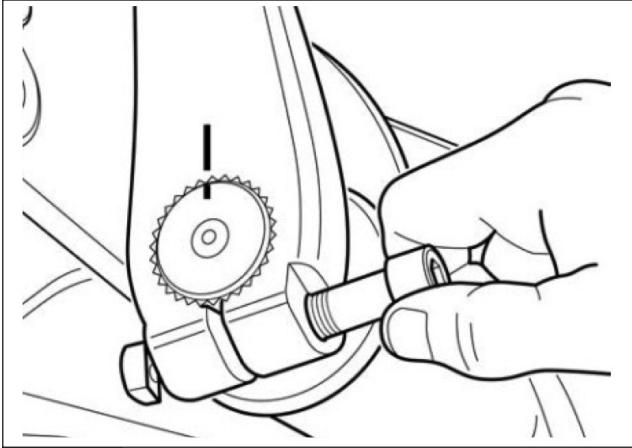

Fig. 2.21
11. Untighten the lever pinch bolt/nut from the lever. - Fig. 2.21